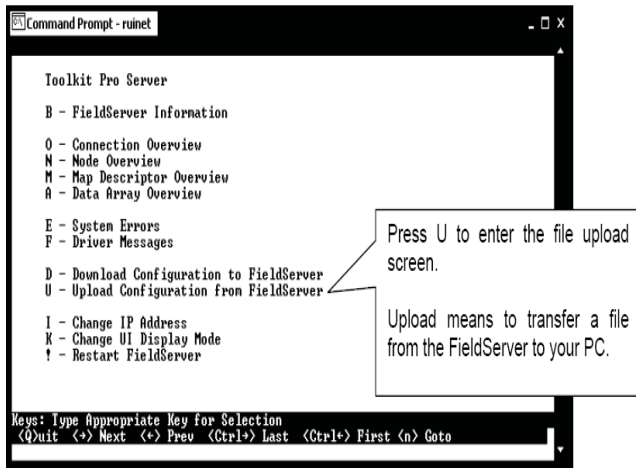
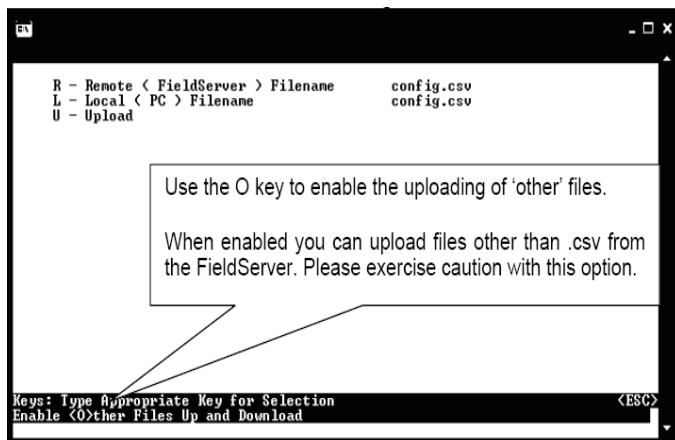

Figure 12: RUINET PT-Link Main Menu - Upload
Figure 13: RUINET PT-Link Upload
7.) Type the letter  to upload the Config file (**Figure 12**), then type  again (**Figure 13**) for Upload.